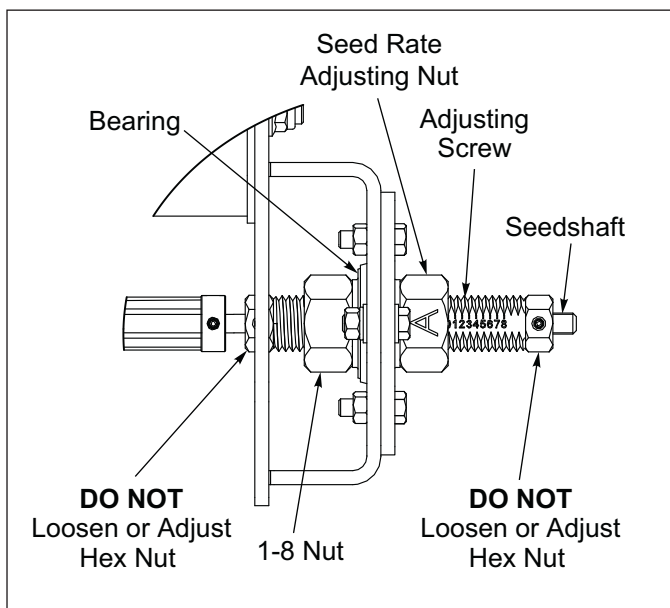

Figure 5-7: Seed Rate Adjuster
All Seed Meters must be set the same to ensure seeding uniformity. To check, set the Seed Rate Adjusting Nut to 0-A. The "A" on the Seed Rate Adjusting Nut is positioned over the "0" (the nut covers half of the "0") and snug against the bearing. All Seed Meter Cups should be closed. If not, there are three adjustments to make as needed. See Figure 5-7.
1. Hex Nuts with Set Screws on both ends of the Adjusting Screw are used to adjust all Seed Meters the same amount. See Figure 5-7. To adjust Seed Meters to be closed at "0A", loosen Hex Nuts with Set Screws (remove set screws first) and set adjusting screw to "0A". Slide Seed Shaft to close all Seed Meters. Tighten Hex Nuts with Set Screws against Adjusting Screw and install set screws to lock against Seed Shaft flats.